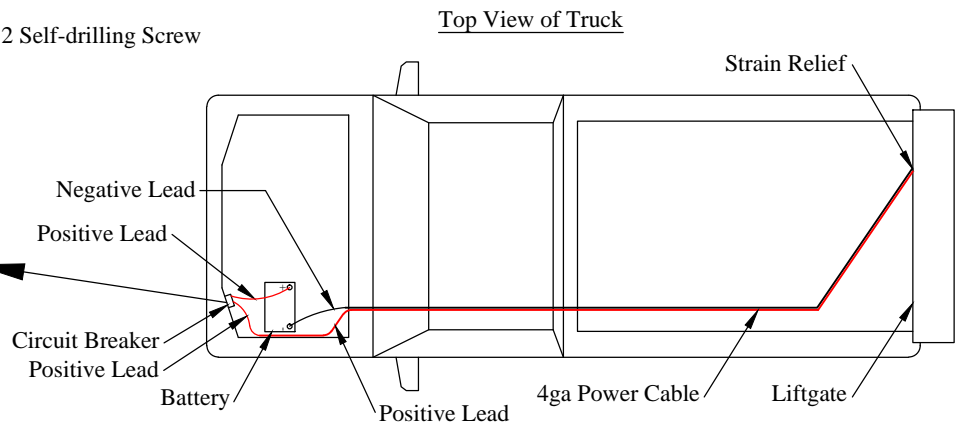

Figure 14: Electrical routing.
3. **Loosen** the strain relief on the back of the liftgate mainframe (Figure 14).
4. **Pull** the power cable (coiled up in the liftgate mainframe) carefully through the strain relief. Leave approximately two (2) inches of slack inside the liftgate mainframe (Figure 14).
6. **Route** the power cables along the frame (Figure 14) to the battery following the *Tommy Gate Recommended Electrical Wiring Guidelines*.